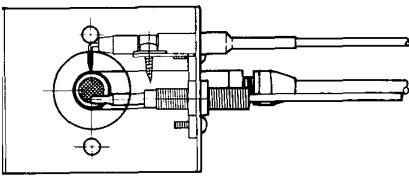

FIGURE 29
The correct position of the feeler is shown in **Figs. 29 and 30**. Setting dimensions as instructed should be maintained in as reference to **Figs. 29 and 30**.
**IMPORTANT:** The tips of the thermocouple and the ignition device must be set at the same level and point to the top of the burner head as shown in **Fig. 29**.